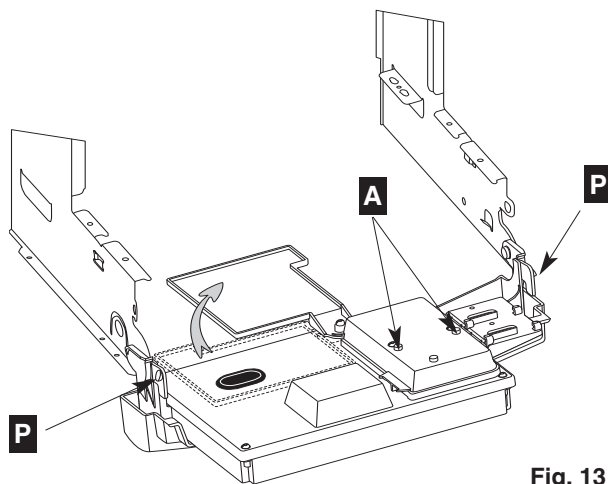

Fig. 13
- Hinge down the electrical box to access to the valves connections. Push in the tabs (P Fig 13) on either side of the boiler and pivot the box forward.
Hinge down the electrical box to gain access to the electrical connections. Push in the tabs (**P** fig. 13) on either side of the boiler and pivot the box forward.
Undo the two retaining screws, remove cover and remove cable clamp. (**A** fig. 13)